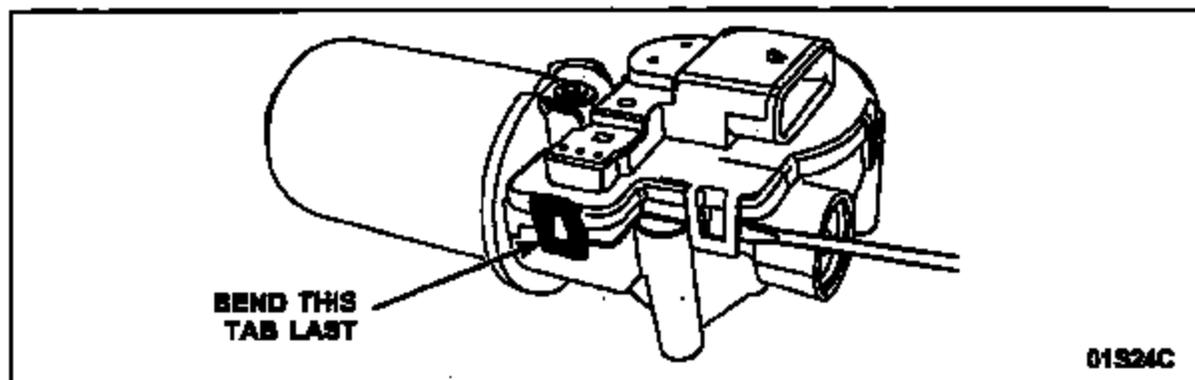

FIGURE 3
- Using a screwdriver, bend the five gear cover plastic lock tabs away from the motor housing. See Figure 3.